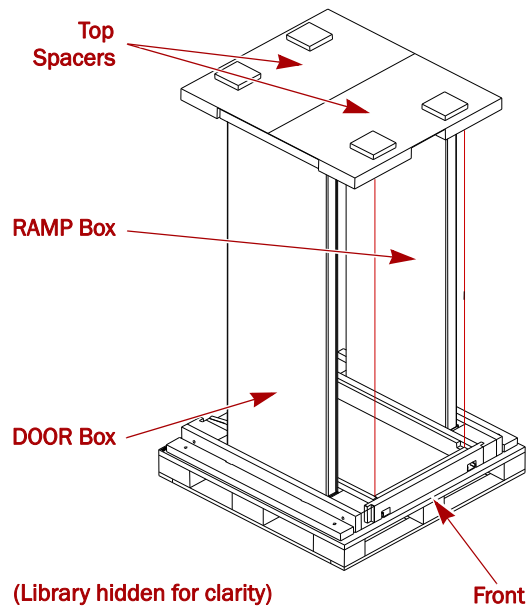

Figure 4. Ramp and Door Box Locations
3. Remove the inner packaging (Figure 4).
- a. Holding the RAMP and DOOR boxes, remove the two (2) **Top Spacers**.